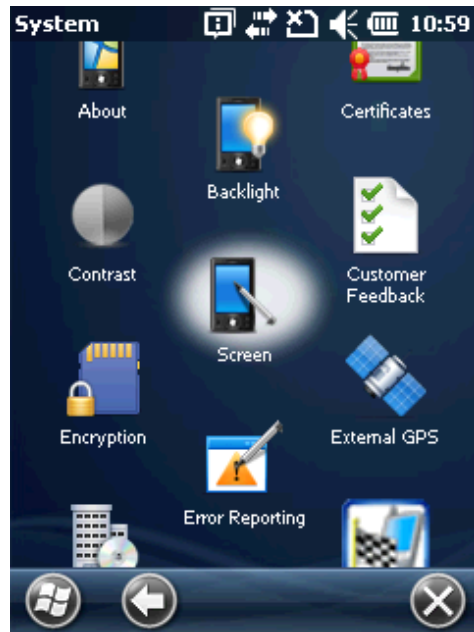

Figure 12
1. Select **Start > Settings > Control Panel > Stylus** to open the **StylusProperties** dialog as shown in Figure 12.